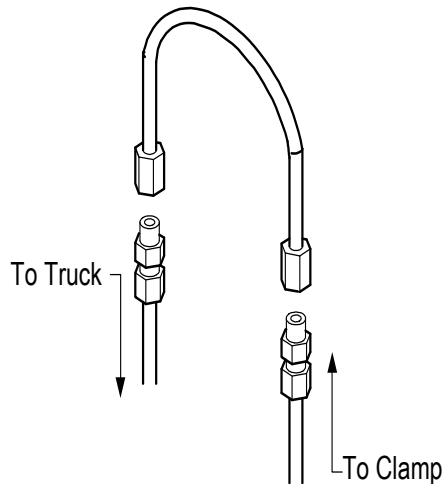

Figure 16, Jumper line
2. Purging can be accomplished by installing a jumper line and operating each hydraulic function (clamp, rotate and side shift if equipped) in each direction for a minimum of 30 seconds. (Figure 16)